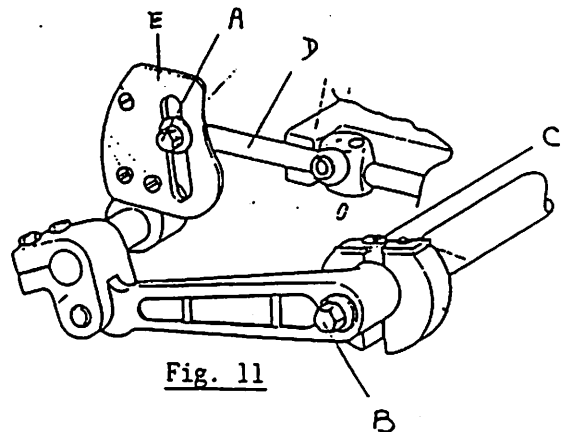

Fig. 11
12) Changing stitch length (Fig. 11)